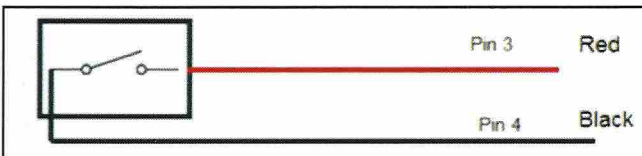

Fig 14 – On/Off Switch connection.
3	CONTROLLER PLUG X1 & X2 (Fig 14)
**Note:** The harness is supplied with a 4 pin timer plug for the timer connection (Fig 13). If the timer option is not used and an On/Off switch is used in its place (Fig 14), cut off the 4 pin plug (Fig 13) and connect the switch in between the red and black wire (Fig 13), the brown wire is not required.